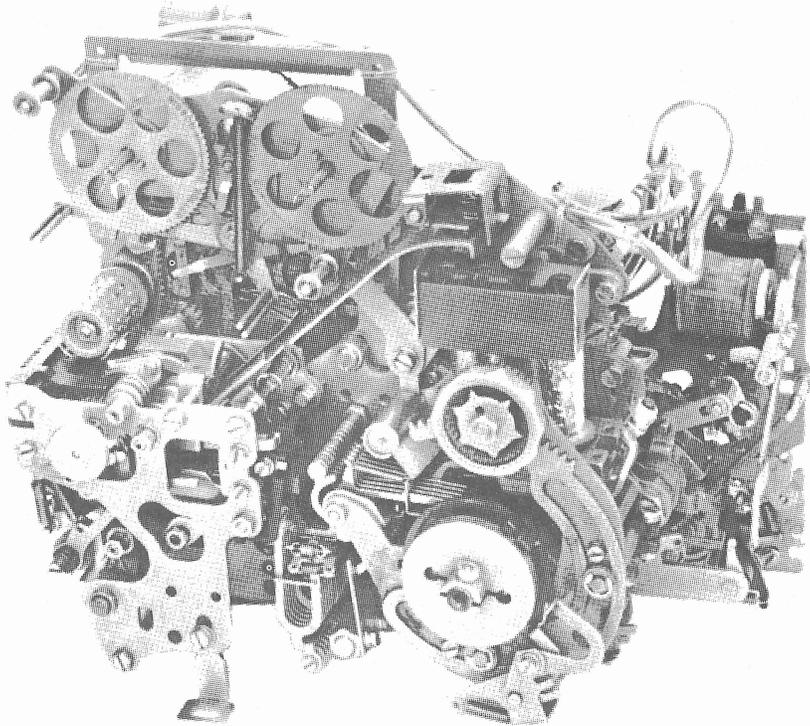

Figure 1 - Typical 35 Typing Reperforator (Front View)
1.01 This section provides adjustments and requirements for the 35 typing reperforator (Figure 1). It is reissued to incorporate recent engineering changes, the selector timing contact mechanism, and information contained in TCN 1092, TCN 1200 and also in the 574-233-700 addendum. Marginal arrows are used to indicate changes and additions.